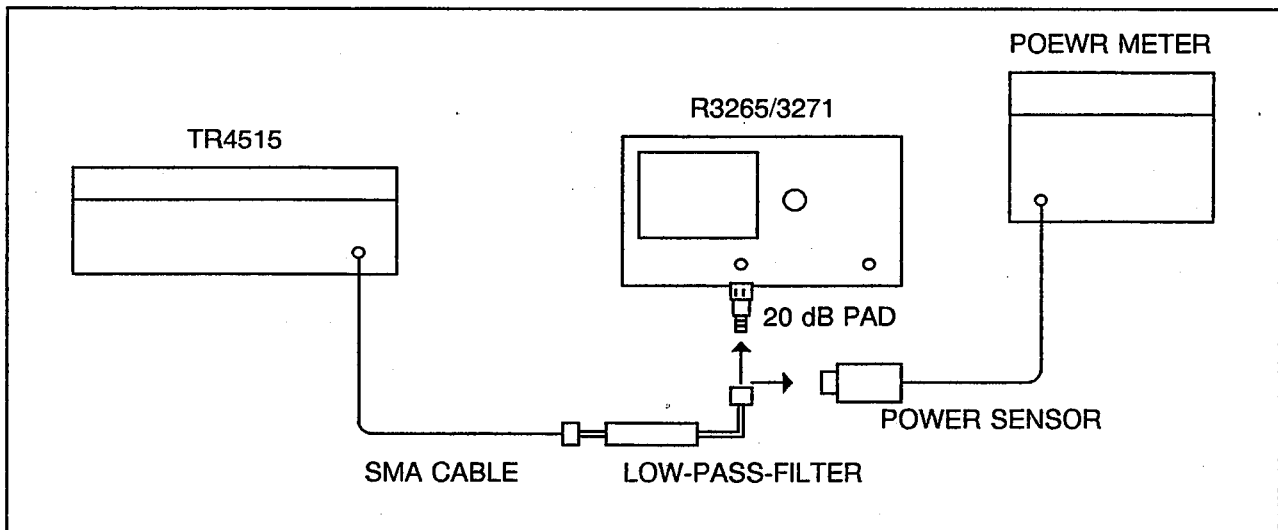

Fig. 5-18 Frequency Response Adjustment (2) Setup
- (1) Zero and calibrate the power meter. Rotate and adjust the CAL FACTOR control to set the 421MHz calibration factor of the power sensor.
- (2) Connect the equipment as illustrated in Figure 5-18. However, connect the low-pass filter output to the power sensor.
- (3) Press the PRESET key of the TR4515, and set the controls as follows: